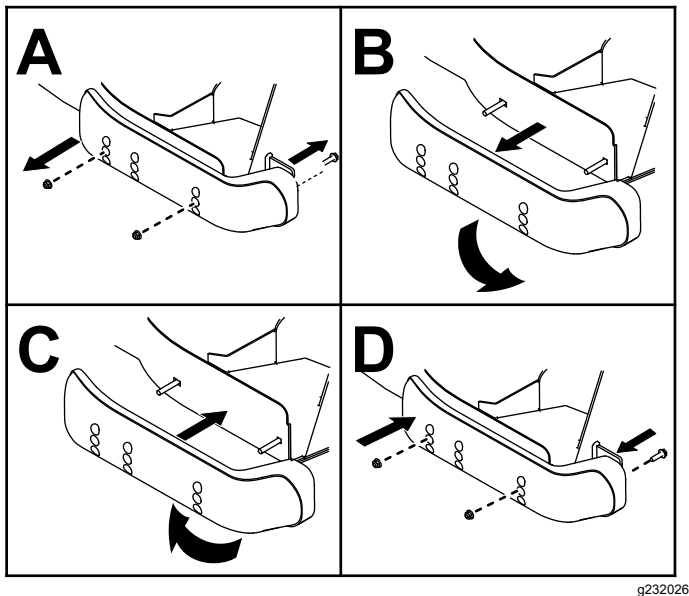

Figure 135
5. Remove the skids from the sides of the mower deck (Figure 135).
6. Switch the skids and install them using the previously removed screws (Figure 135).